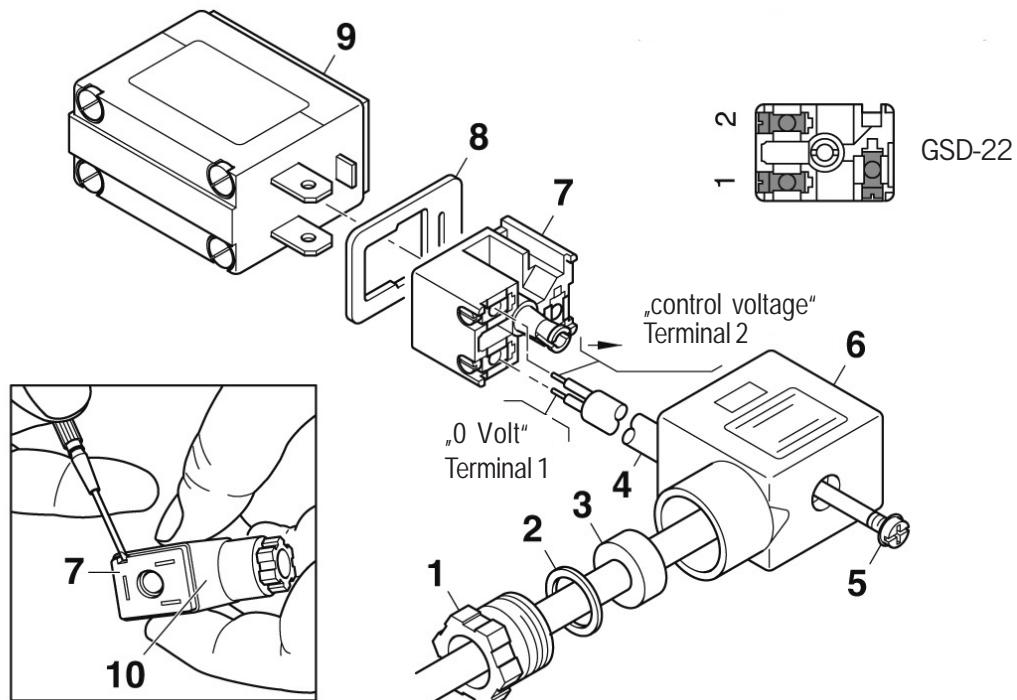

Fig.: 6
The terminal assignments are shown in Fig. 6.
- Slacken connector locking screw (Fig. 6/5) and unplug connector GSD-22 (10) from blade contacts of P8 valve (9), paying attention to connector seal (8).
- Withdraw connector locking screw from connector (6).
- Withdraw connector block (7) from connector housing using a screwdriver.
- Unscrew threaded gland (1), remove washer (2) and seal (3).